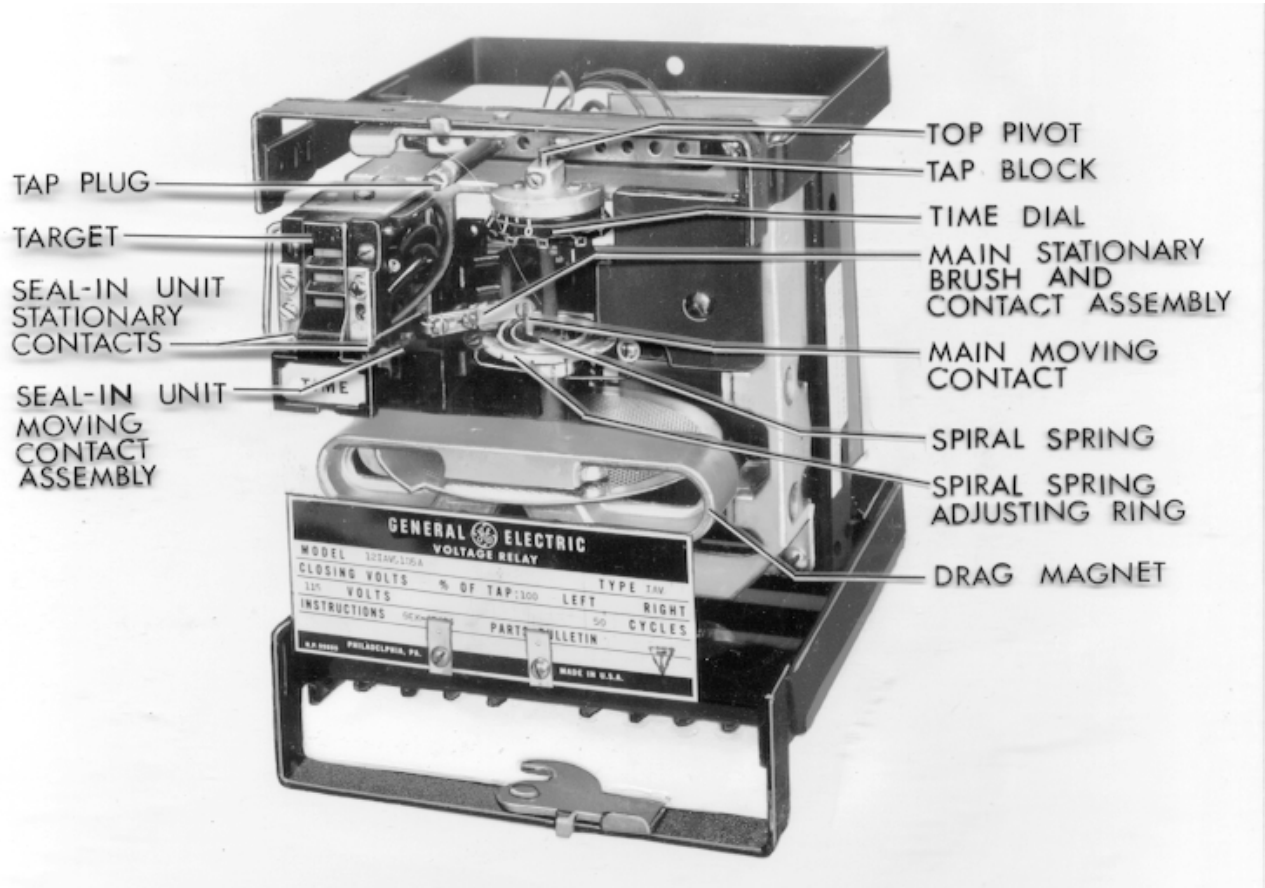

FIG. 1 (8043181-0) TYPE IAV51D RELAY, REMOVED FROM CASE, FRONT VIEW
- FIG. 1 (8043181) TYPE IAV51D RELAY, REMOVED FROM CASE, FRONT VIEW